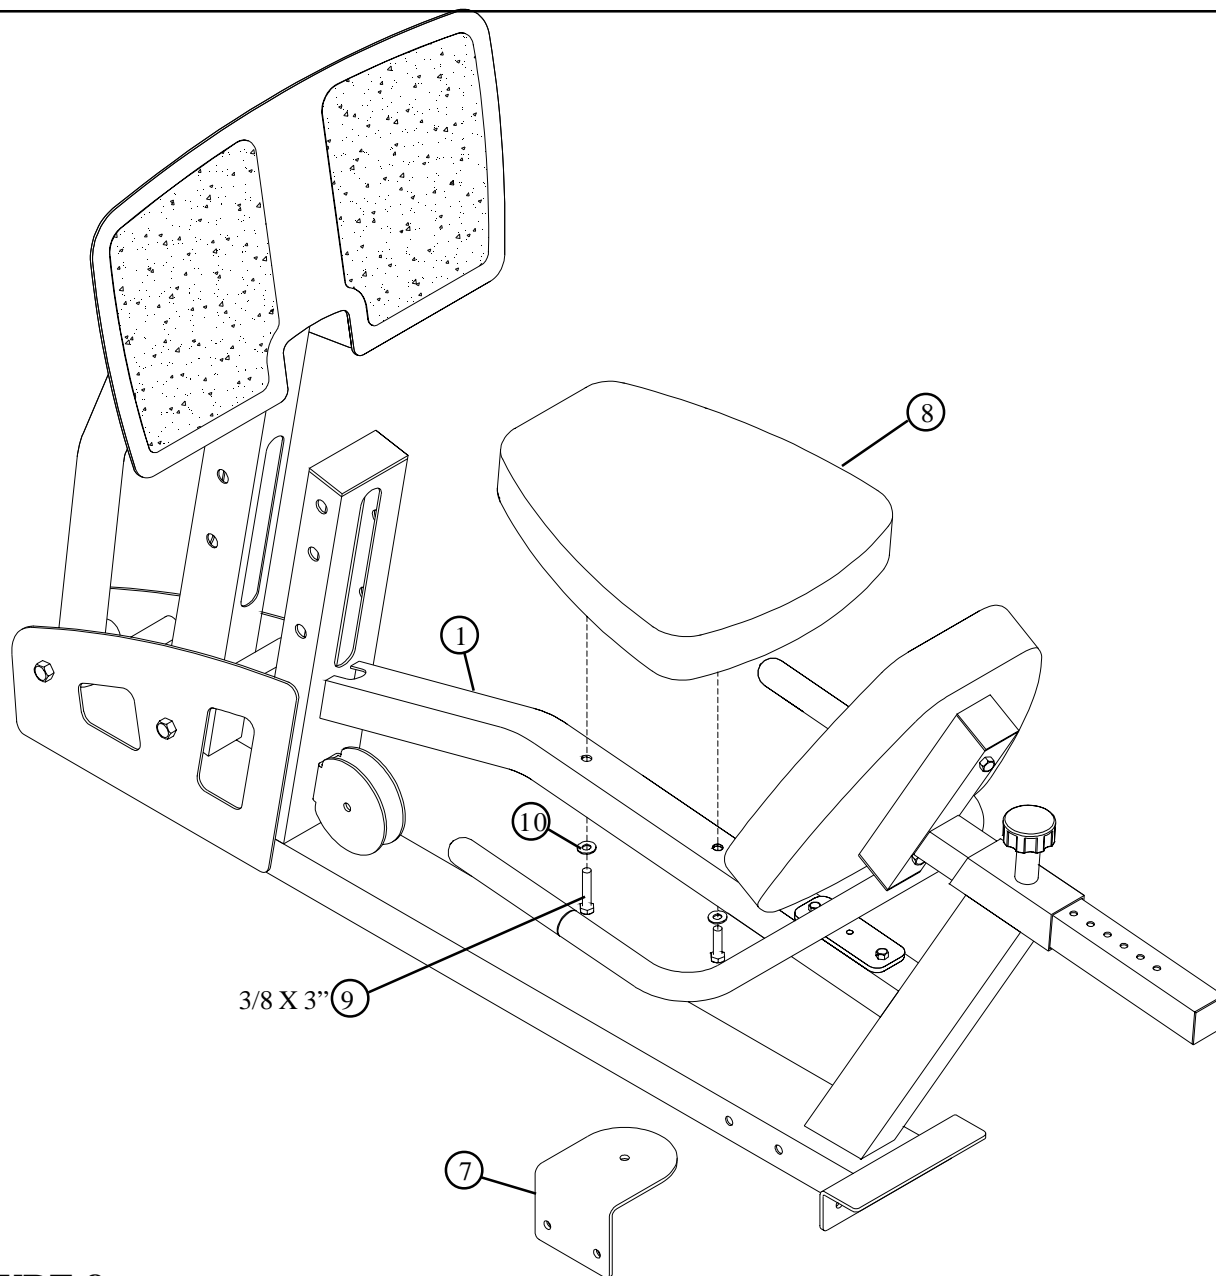

FIGURE 8
- **SECURELY** assemble one PAD (8) to the FRAME (1) using two 3/8 X 3" BOLTS (9) and two 3/8" FLAT WASHERS (10) as shown in FIGURE 8.
- Refer to the LEG PRESS ADAPTOR assembly instructions to attach the LP5 LEG PRESS to the home gym. The PULLEY BRACKET (7) will be attached at that time.